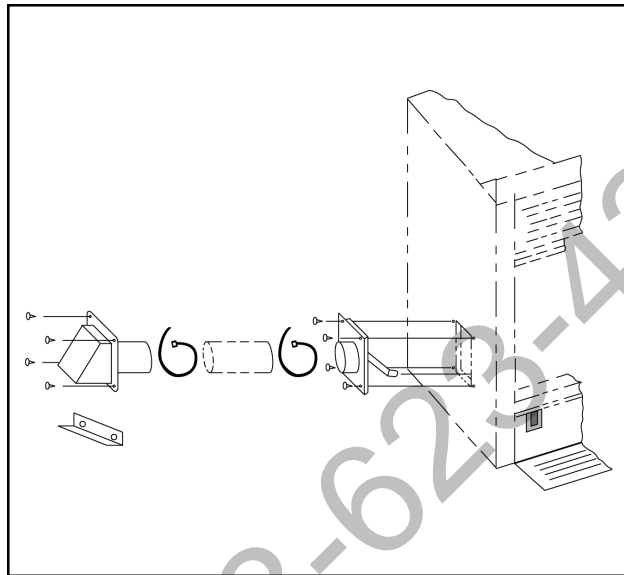

Figure 10 - Air Kit Installation
- The air kit can only be installed on the left side of the appliance. See Figures 10 and 11 for correct orientation of the door assembly and handle. The hinge will be toward the back of the appliance.